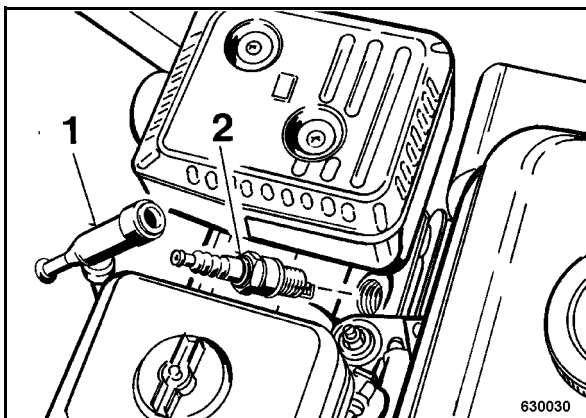

Fig. 49
- Pull off the spark plug socket (1) (Fig. 49) and unscrew the spark plug (2).